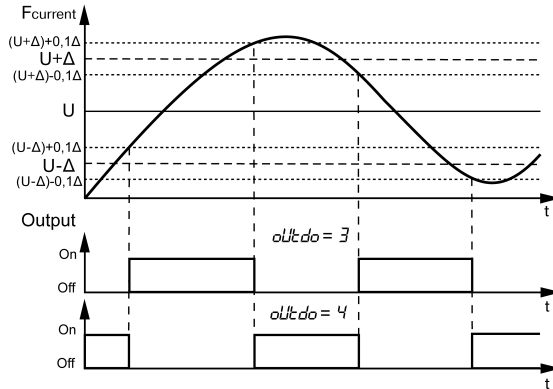

Figure 7.7 – Types of logic (Π - and U-shaped) when the outputs operates as a comparator
1. With Π - or U-shaped logic, to suppress bounce during switching, there is an additional hysteresis of operation of 5 % of the range between the limits (2Δ) (see *Figure 7.7*).